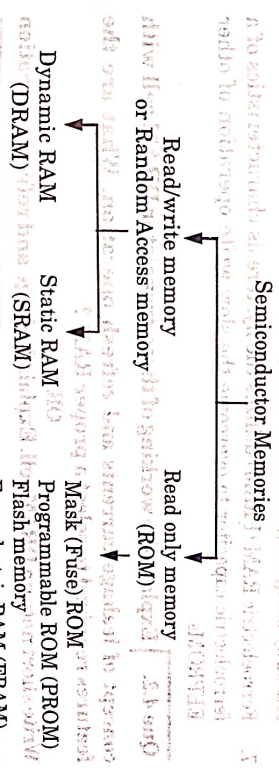

Fig. 4.1.1. Overview and characteristic summary of different memory types and their classification.
B. Types of semiconductor memory : Semiconductor memory arrays capable of storing large quantities of digital information are essential to all digital systems. The Fig. 4.1.1 shows an overview of semiconductor memory types.